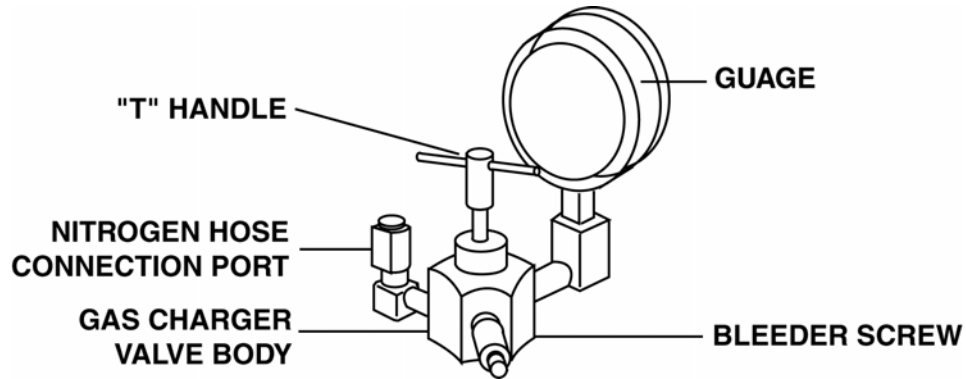

Figure 10. Gas Charger Valve
- b. Remove the cap on the gas charger, nitrogen hose connection port. See Figure 10.